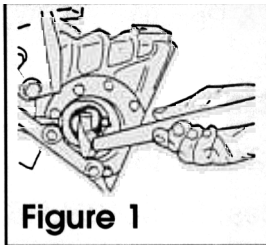

Figure 1
2. Remove the seal and sheet metal oil shield and discard (**Figures 1 and 2**).